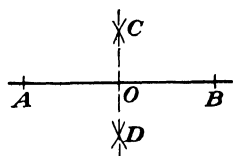

Fig. 118.
a. Open a compass a distance which you estimate to be greater than one-half of AB (see Fig. 118).